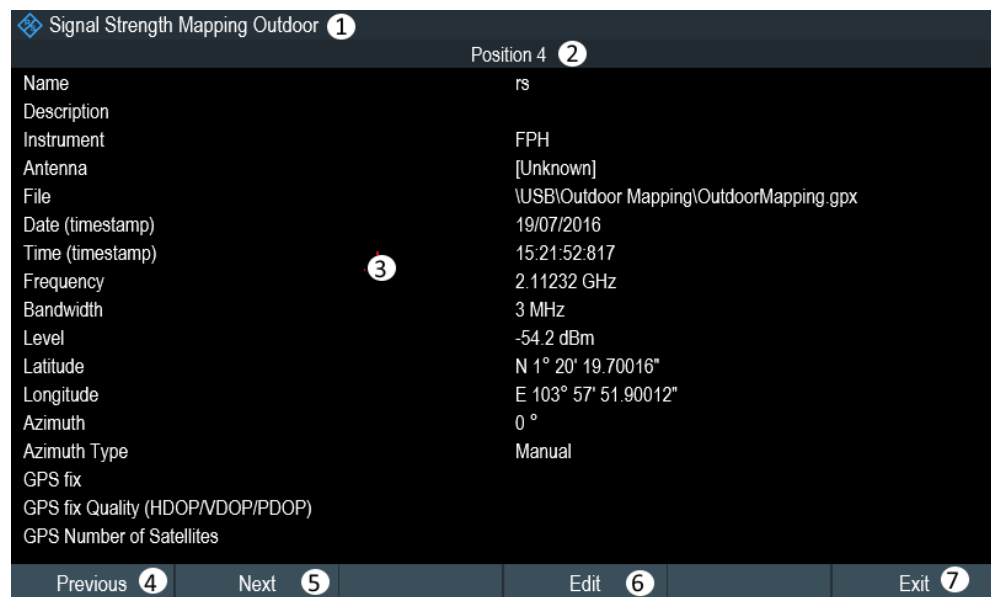

Figure 11-6: Complete geotag information dialog box
- 9 = Select "View" softkey to display complete information of the geotag, see Figure 11-6